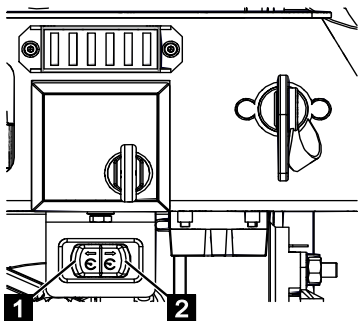

Fig. 194
- Press the service button (Fig.194/1 or 2) to increase the combustion engine's speed.